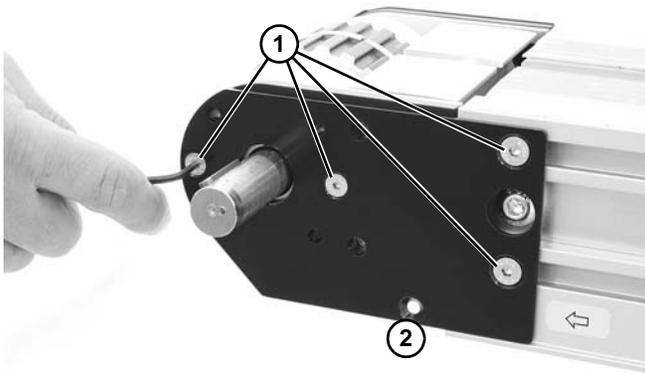

Figure 42
2. Remove four flat head screws (Figure 42, item 1).